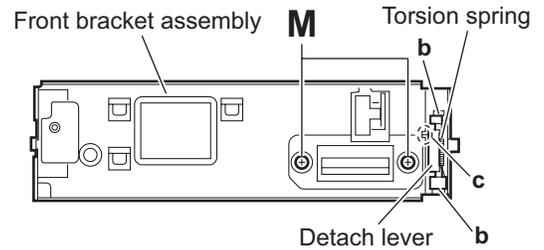

Fig.13
3.1.10 Removing the connector board (See Figs.13 to 15)
- (1) From the front side of the front bracket assembly, remove the two screws **M**. (See Fig.13.)
- (2) Remove the joints **b** and remove the detach lever from the front bracket assembly. (See Fig.13.)
When attaching the detach lever, insert the end of the torsion spring in the hole **c** of the front bracket assembly. (See Fig.13.)